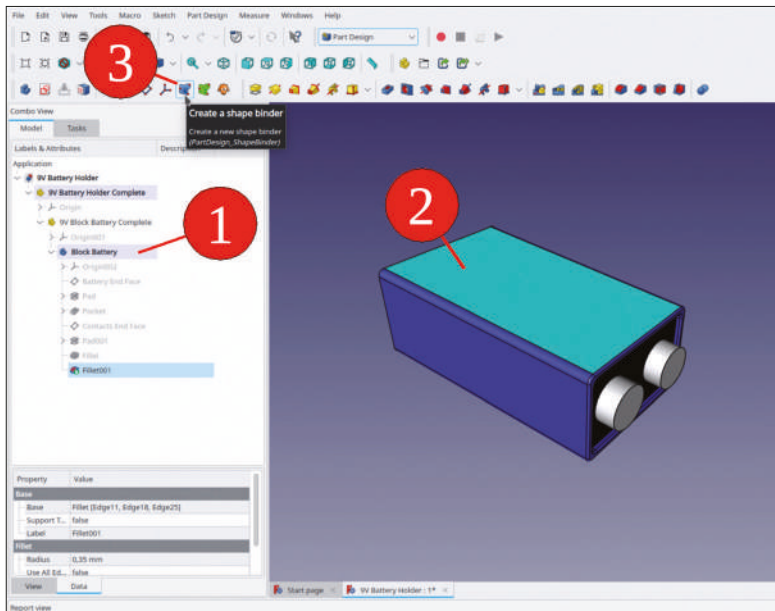

Figure 5-2
5. In order to start with the battery holder sheet metal, a reference to the top of the battery is needed. To identify the top face, you can briefly show the coordinate system of the parent Std-Part-Container. The reference will be a shape binder. To generate that in the correct location, activate the body 'Block Battery' (the title appears in bold letters if activated). Then, in the 3D view, mark the top face and click the 'Create a Shape Binder' tool button (Figure 5-2). Now, you have created a reference to a facet – which could break by re-enumeration. But you may allow for that because the battery can be considered as a established part, for which no further changes are expected. If you decide to add more elaborate contact representations later, the design could break! In such a case, more robust references with a datum plane and a sketch should be considered. For the sake of simplicity, that's skipped here.